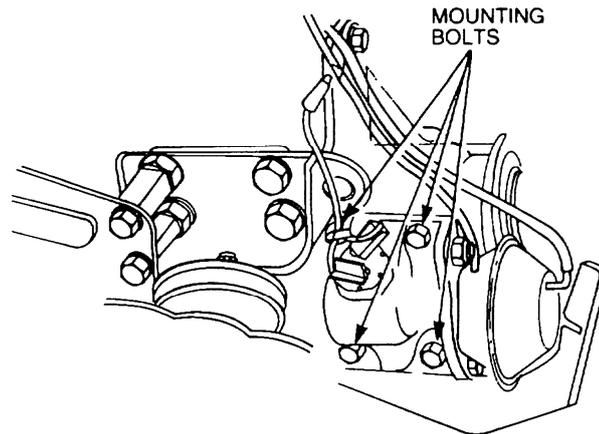

Figure 74 Vacuum Chamber Selector Housing Removal
- f. Remove the four bolts securing the vacuum chamber selector housing to the transmission (Figure 74).